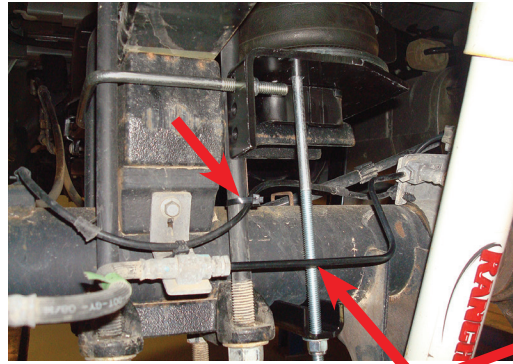
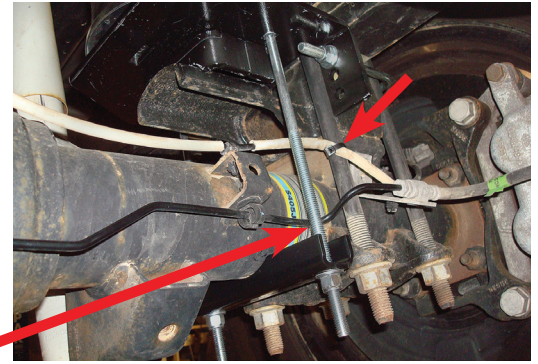

Fig. 21
Fig. 22
NOTE *On the driver's (left) side, the long carriage bolt in the lower bracket main plate should be located between the hard brake line and axle (Fig. 21). On the passenger's (right) side, the carriage bolt should be located on the backside of the brake line (Fig. 22).*
6. Figures 21 & 22 show the lower bracket installed.
IT WILL BE NECESSARY TO PUSH THE HARD BRAKE LINE AWAY FROM THE LOWER BRACKET CARRIAGE BOLT IF THE LINE IS RESTING ON IT (FIGS. 21 & 22).